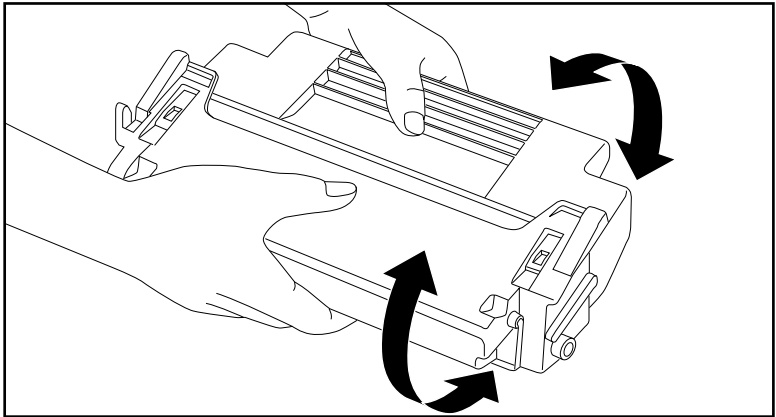

Fig. 6.12 Distribute the Toner
1. Remove the new toner cartridge from its package and gently rock it to distribute the toner evenly throughout the cartridge (fig. 6.12).